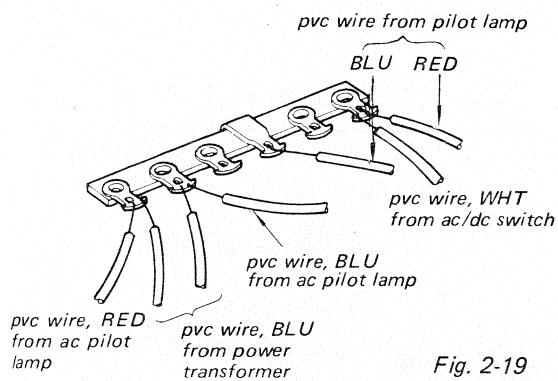

Fig. 2-19
3. Unsolder all the wires on the terminal strip shown in Fig. 2-19.